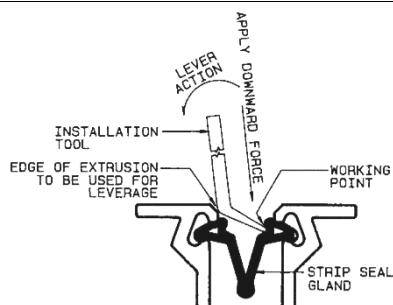

FIGURE 3
- Using installation tool pry lug into extrusion cavity. (FIGURE 3 & 4)